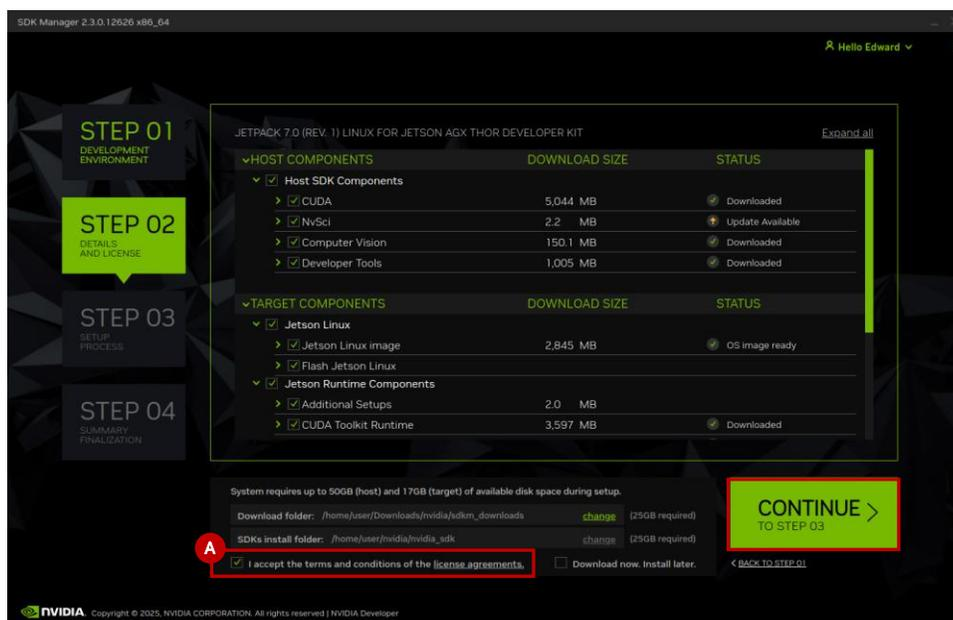

Figure 6.18. STEP 02 – Details and License
9. In **STEP 02**, select **I accept the terms and conditions of the license agreements** as shown in Figure 6.18. Click **CONTINUE** to proceed with the installation process.